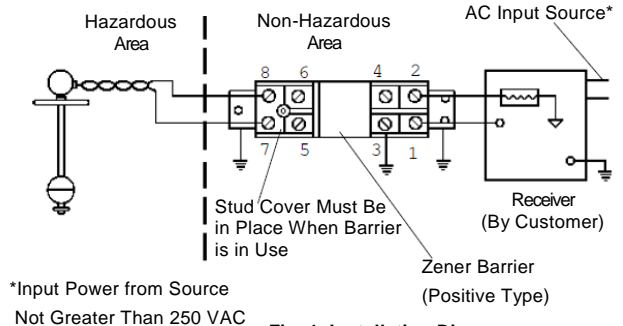

Fig. 1. Installation Diagram
- Only one sensor per channel may be connected to a barrier (See Figure 1).
- To serve multiple tank installations, additional barriers may be placed in an enclosure using a common earth ground (See Figure 3). In this enclosure, the intrinsically safe wiring should be segregated from non-intrinsically safe wiring by independent raceways, wiring trays or other adequate means to insure the integrity of the installation. Additionally, when internal terminations are used, intrinsically safe wiring and non-intrinsically safe wiring should not be adjacent or arranged in such a way as to create the potential to miswire or bypass the barrier during servicing or testing. (See typical installation depicted in Figure 1.)